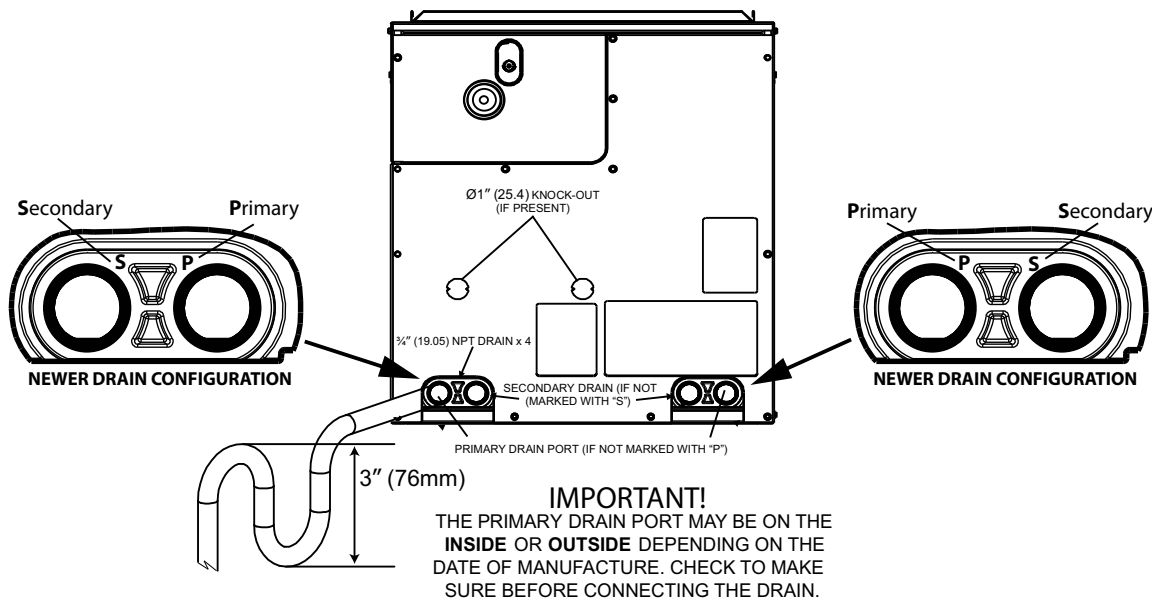

Fig. 8 – Condensate Trap and Drain
IMPORTANT: Depending on the date of manufacture, the unit's primary and secondary drains may be reversed from what you are accustomed to. Please check carefully before connecting the drain. Refer to Fig. 8.
- Make trap at least 3 inches (76 mm) deep and no higher than the bottom of unit condensate drain opening (Fig. 8).